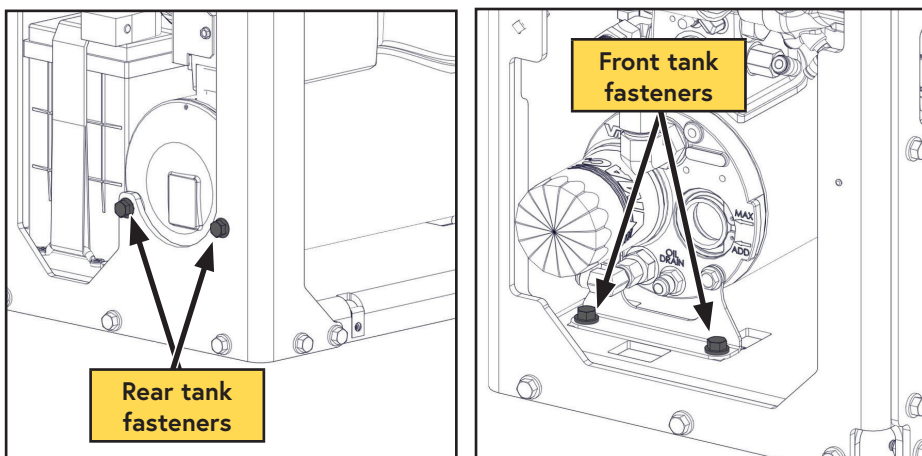

Figure 76 — Remove WHASP Tank fasteners
- ☐ Remove the (x4) fasteners from the bottom of the WHASP Tank mounting brackets (Figure 76).